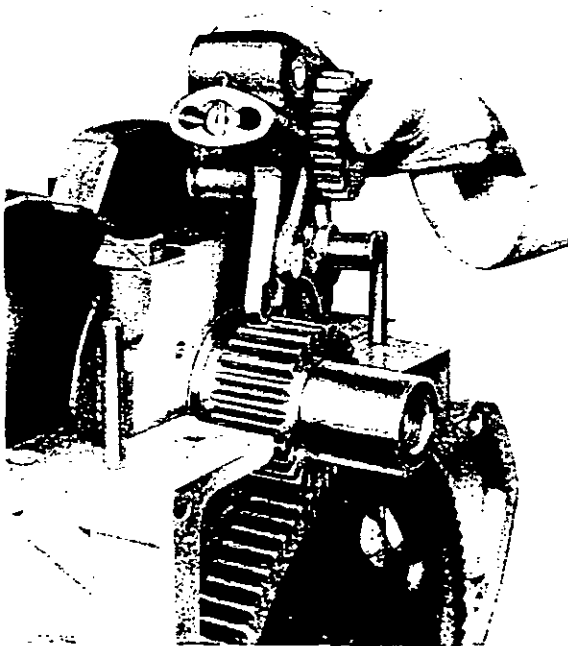

FIGURE 13
**THE OIL PUMP (Refer Figure 13)**
**REMOVING THE OIL PUMP (Refer Figure 13)**